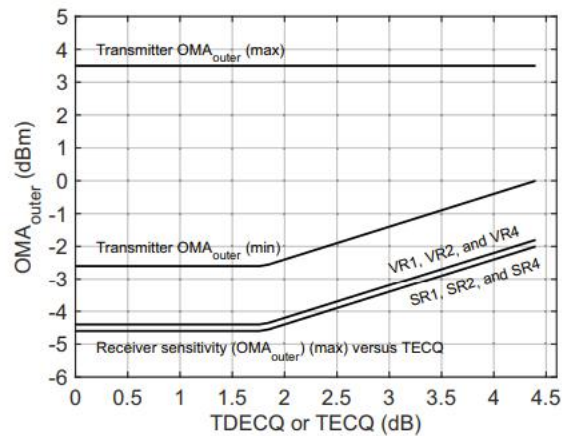

Figure 1 Illustration of Receiver Sensitivity Mask for 400G-VR4
- [5] Receiver sensitivity (OMA_{outer}) is informative and is defined for a transmitter with a value of TECQ up to 4.4 dB. Receiver sensitivity should meet Equation (1), which is illustrated in Figure 1.